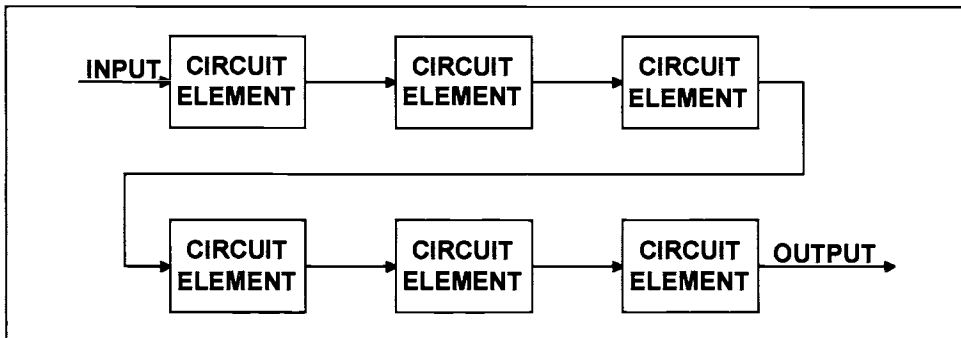

Figure 1-16 Schematic Flow in Rows
- Signals should flow from left to right and in rows from top to bottom, as shown in Figure 1-16. Place connectors according to the predominant signals: input connectors on the left and output connectors on the right.